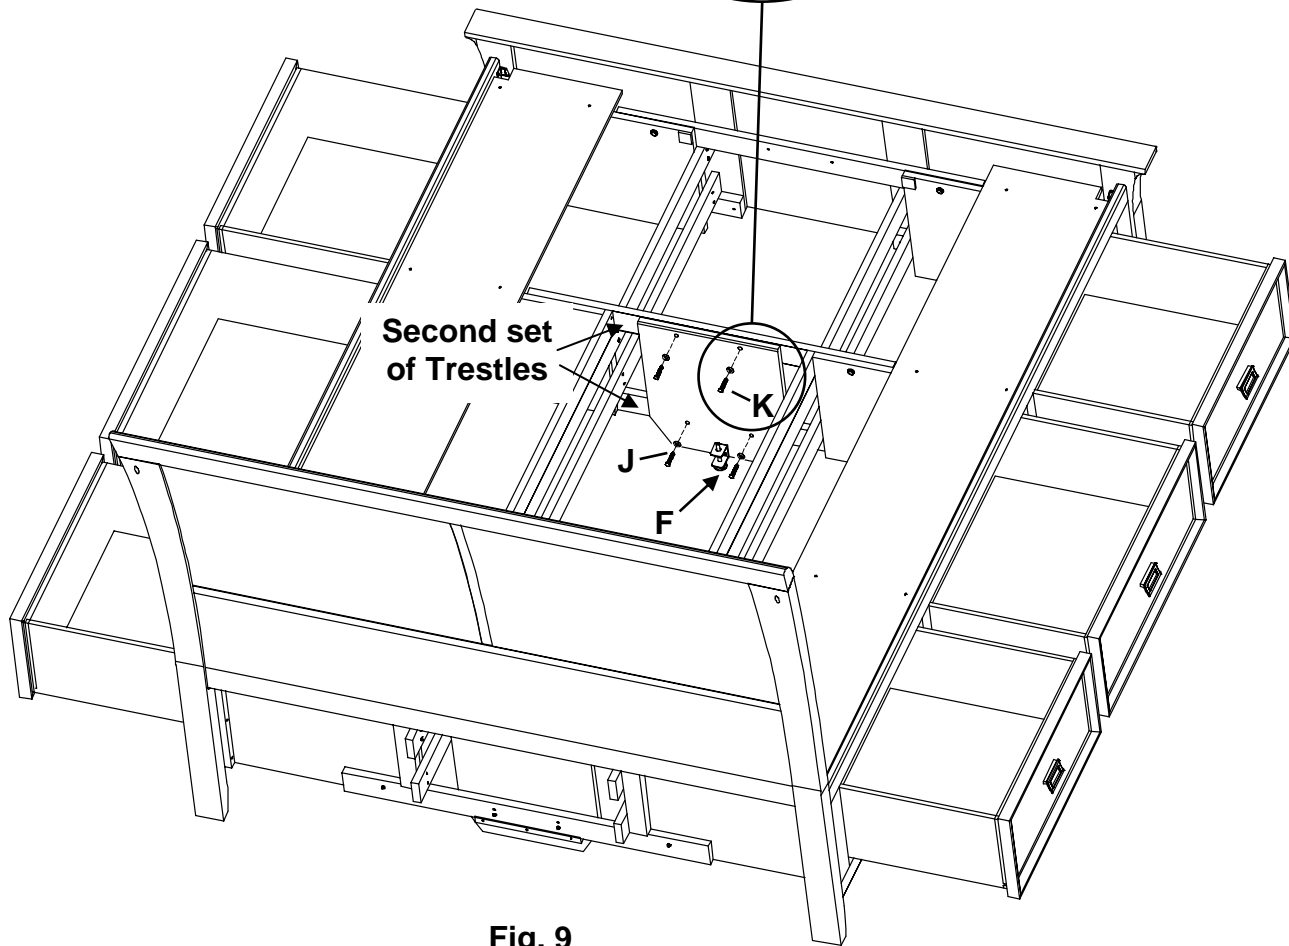

Fig. 9
9. Facing the Footboard, place a Foot Assembly (D) on the inside of the second set of Trestles and attach with four Washers (K) and four 1/4" x 1-3/4" Hex Bolts (J). See Figures 9 and 9a.